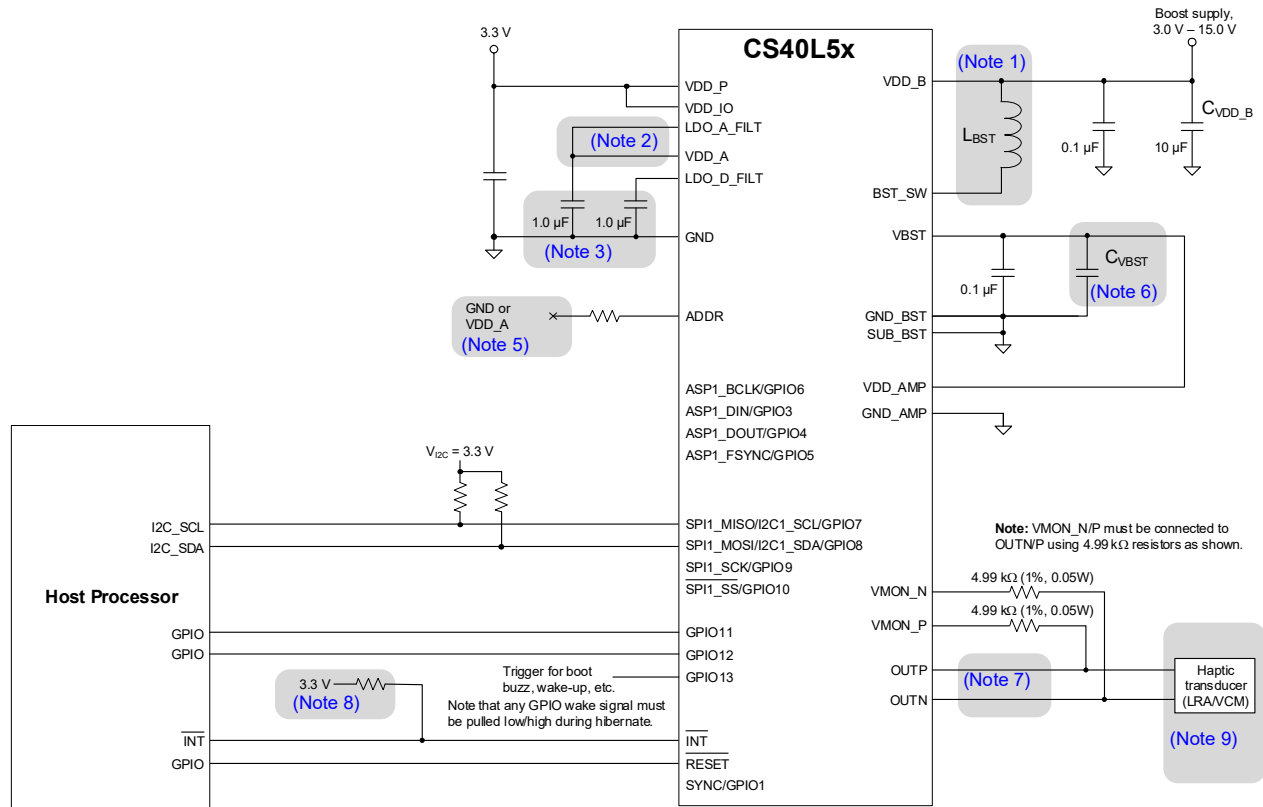
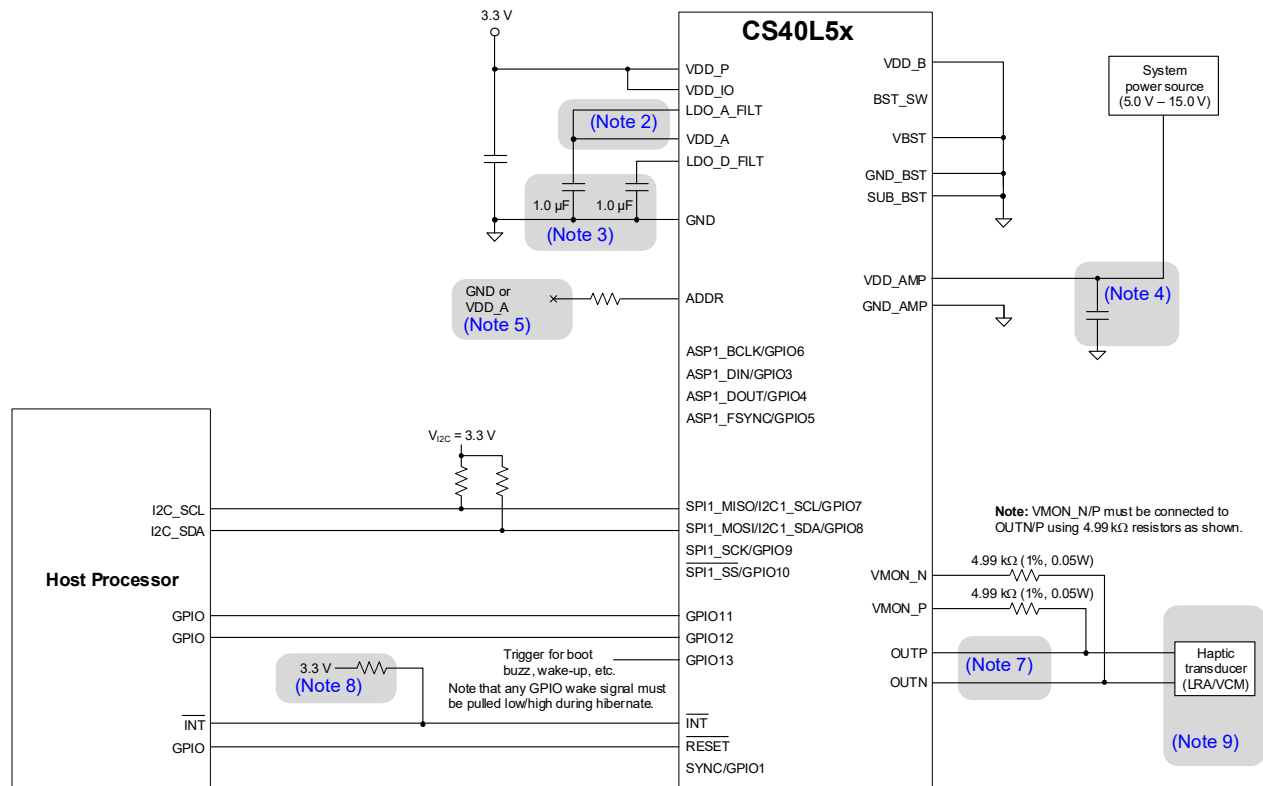

Figure 2-1. Typical configuration with internal boost power source
Figure 2-2. Typical configuration with external amplifier power source
- Fig. 2-1 through Fig. 2-2 are examples intended to describe the connectivity of each functional block within the CS40L5x, and do not limit all possible use cases.